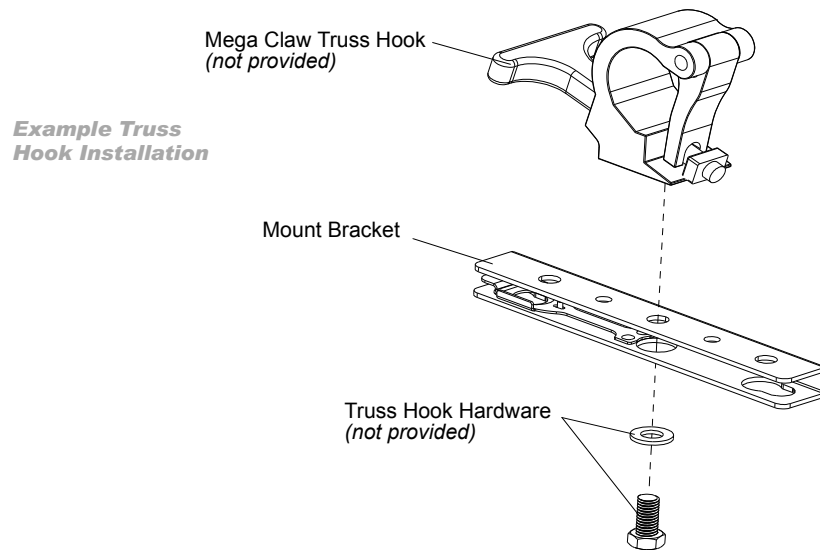

Figure 2-1: Truss Hook Installation
- Step 1. Install truss hooks (also refer to “Truss Hook Hardware (by others)” on page 20 for additional information) on two provided truss hook brackets as required as shown in Figure 2-1.
When installing hanging hooks on mounting brackets, Vari-Lite strongly recommends the use of a Belleville washer (by others, Figure 2-2 shows examples) when installing a truss hook or claw as shown in Figure 2-1. The Belleville washer's size should be approximately 0.505-inch (inner diameter) by 1.00-inch (outer diameter). Belleville washers are available in various thicknesses and any of the following thicknesses (0.035-inch, 0.043-inch, 0.050-inch, 0.073-inch) are acceptable for the application described herein. The washer serves two purposes: